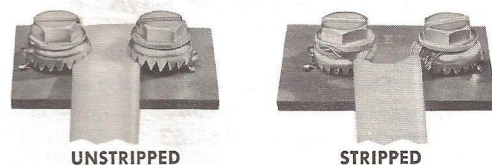

Fig. 4—Connecting Twin-Lead to Crown Washer Screw Terminals
3. Connect a length of twin-lead to crown washer screw terminals on MTU0-374. See Fig. 4.